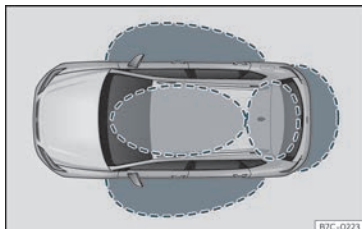
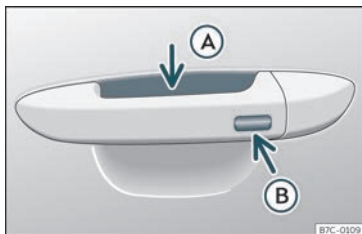

Fig. 76 Keyless Access: proximity zones.
Fig. 77 Door handle: sensor surfaces
in the detection area where you are attempting to access the vehicle»» Fig. 76 and to touch one of the sensor surfaces on the door handles»» Fig. 77 or operate the *softtouch*/handle on the rear lid
If a valid key is in the proximity of the car, »» Fig. 76 the Keyless Access locking and starting system gives the key entry as soon as one of the sensor surfaces on the door handles is touched or the *softtouch*/handle on the rear lid is operated. »
- Grip one of the front door handles. When you do this, you touch the sensor surface >>> Fig. 77 (A) (arrow) of the handle and the vehicle unlocks.
- Touch (*once*) the locking sensor surface >>> Fig. 77 (B) (arrow) on one of the front door handles. The door that is used must be closed.
• Touch (*once*) the sensor surface >>> Fig. 77 (B) (arrow) on one of the front door handles. The vehicle locks with the "Safe" security system >>> page 98. The door that is used must be closed.
• Touch (*twice*) the sensor surface >>> Fig. 77 (B) (arrow) of one of the front door handles to lock the vehicle without activating the "Safelock" security system >>> page 98.
When the vehicle is locked, the rear lid automatically unlocks on opening if there is a valid vehicle key in the proximity zone >>> Fig. 76.
- Push the central locking button  on the remote control and touch the locking sensor surface of the driver door handle >>> **Fig. 77**  within the following 5 seconds. Do not grasp the door handle; otherwise the vehicle will not unlock. Deactivation is also
To close all the electric windows and the sunroof using the **comfort function**, keep a finger for a few seconds on the locking sensor surface >>> **Fig. 77**  (arrow) of the door handle until the windows and roof have closed.
The sensor surfaces on the door handles could engage if hit with a water jet or high pressure steam if there is a valid vehicle key in the proximity. If at least one of the electric windows is open and the sensor surface >>> **Fig. 77**  (arrow) on one of the handles is
- **OR:** touch the sensor surface on the outside of the door handle *twice*>>> Fig. 77 .